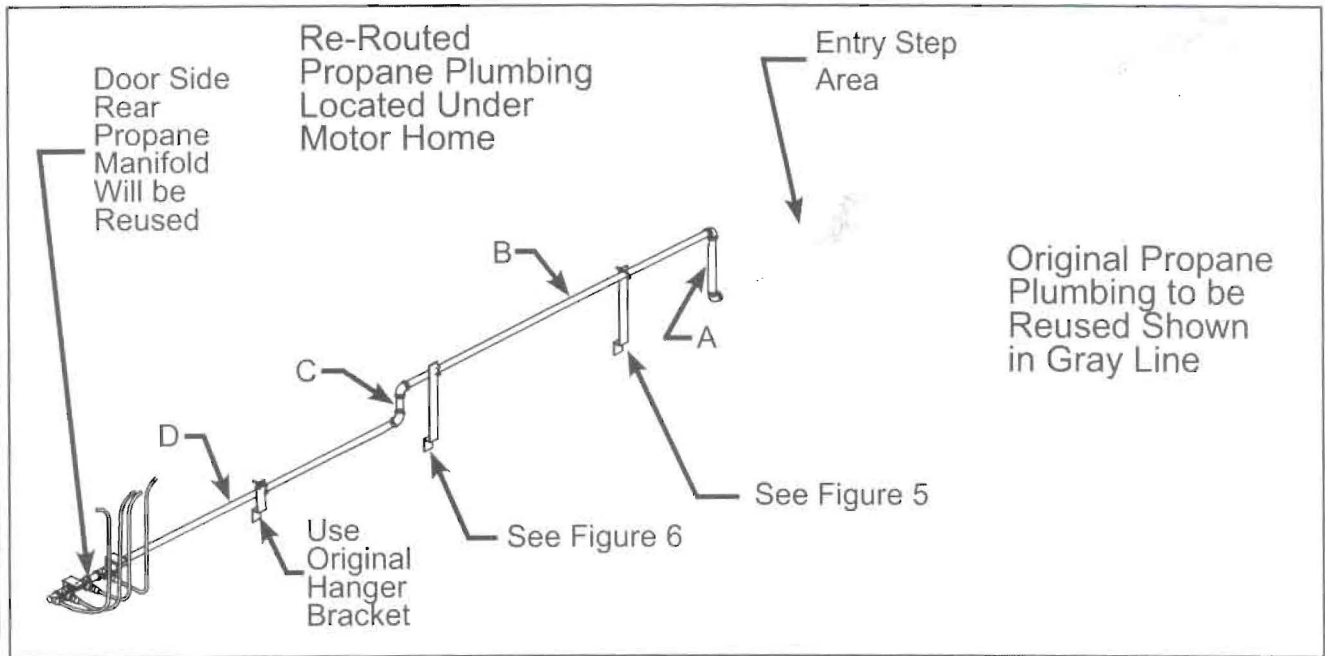
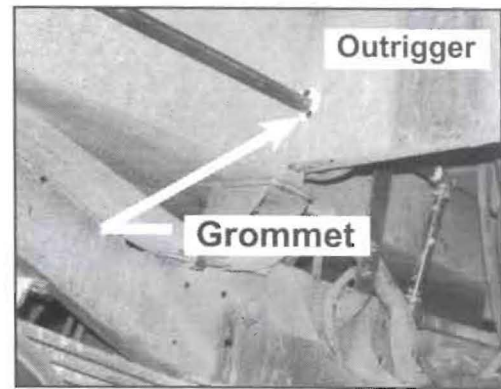
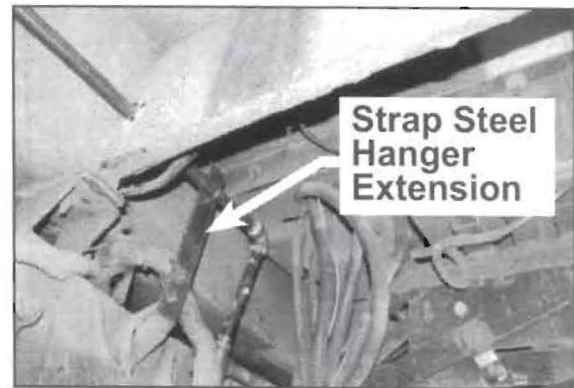

Figure 3
Figure 4
Figure 5
8" (Figure 3, Reference "A")
45 1/2" (Figure 3, Reference "B")
4 1/2" (Figure 3, Reference "C")
16. Use a small wire brush to clean the pipe threads of the original pipe located near the rear of the entry step. Install a new 90° elbow on the end of this original pipe. Tighten the elbow until it is pointing straight up. See Figure 3.
17. Attach the straight end of the new 8" length of pipe to the 90° elbow installed in Step 16. Tighten the pipe until the elbow on the opposite end points toward the rear of the motor home. See Figure 3, Reference "A".
18. Mark the outrigger, on the forward side of the wheel well, for a hole that will allow a new pipe to be aligned with and connected to the 90° elbow of the 8" length of pipe. Refer to Reference "B" in Figure 3 and the photo in Figure 4.
20. Apply Bostic sealant around the edge of the new hole in the outrigger and install a grommet. Secure the grommet with two #8 X 3/4" Tek Screws. See Figure 4.
21. Route the straight end of the new 45 1/2" length of pipe through the grommet in the outrigger and attach to the 90° elbow on the length of pipe, installed in Step 17. Tighten the pipe until the elbow on the opposite end points down. See Figure 3, Reference "B".
22. Install a 1 1/2" X 10" X 1/8" Strap Steel Hanger Extension to each of the two original Propane plumbing hanger brackets according to the locations in Figure 3 and the photos shown in Figures 5 and 6. Drill 5/16" holes in the Strap Steel as necessary and attach to existing brackets with two 1/4-20 X 1" Bolts, Flat Washers (2 each bolt), Lock Washers and Nuts each. Also Drill 5/16" holes in the Strap Steel for installation of the U-bolts.
23. Attach the straight end of the new 4 1/2" length of pipe to the 90° elbow on the end of the pipe installed in Step 21. Tighten the pipe until the elbow on the opposite end points toward the rear of the motor home. See Figure 3, Reference "C".
24. Install U-bolts for the Propane plumbing at the two new Strap Steel Hanger Extensions. See Figures 5 and 6.
25. Attach the new 59" length of pipe to the 90° elbow on the end of the pipe installed in Step 23 and tighten. See Figure 3, Reference "D".